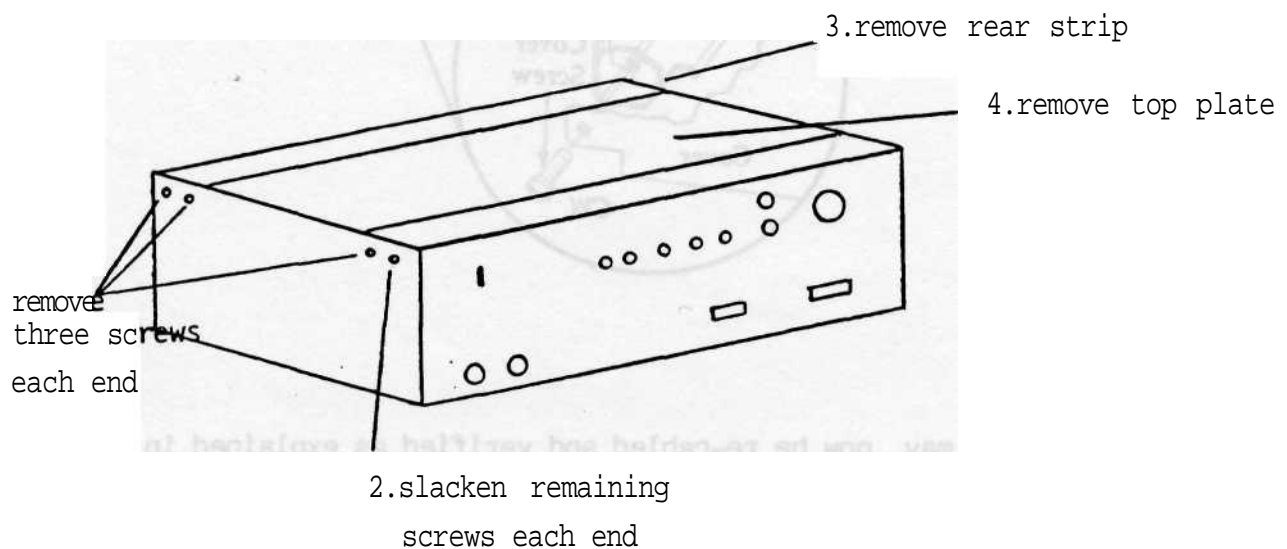

Fig 2.3.2.1 Removal of Controller Top Plate
- (d) Remove the controller top plate as detailed in Fig 2.3.2.1.